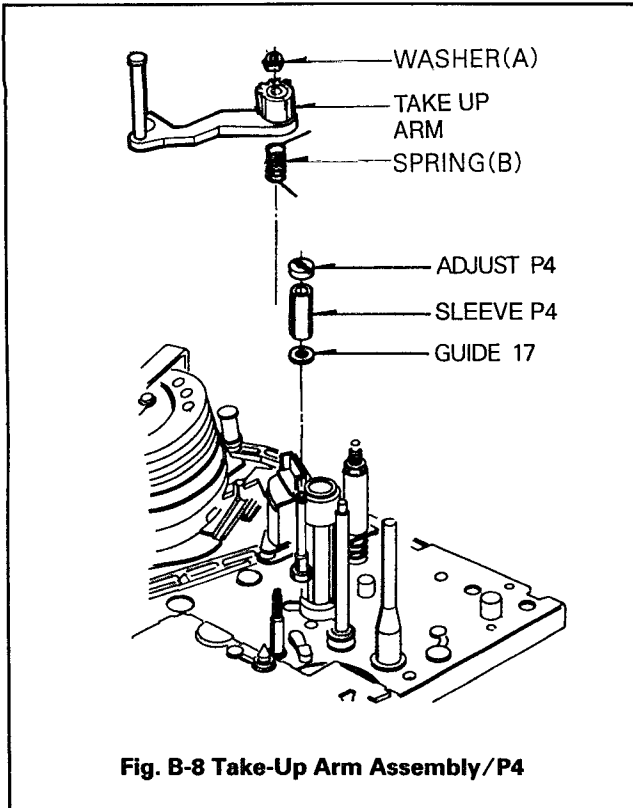

Fig. B-8 Take-Up Arm Assembly/P4
- ① When disassembling the Take-Up Lever, be careful not to break the Hook(A).
- ② When reassemble the Take-Up Lever, align the appendant Gear of Lever Take-Up with the appendant Gear of Take-up Arm
- ③ Reassemble the Take-Up Lever completely by hooking (A).
- ④ Be sure to replace together Take-Up Lever and Pinch Gear.
- ⑤ Be sure to assemble Pinch Lever Assembly before operating.
8. Take Up Arm Assembly(Fig. B-8)
9. P4 Assembly(Fig. B-8)